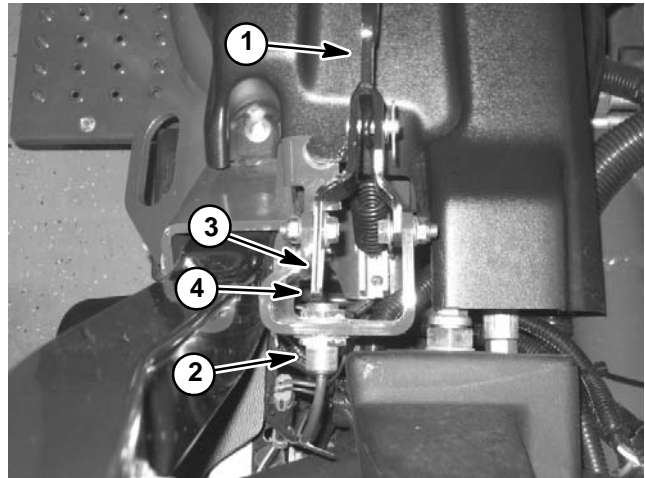

Figure 17
The parking brake switch is a normally open proximity switch that mounts to the frame bracket used to attach the parking brake lever assembly (Fig. 17). The sensing plate for the brake switch is a tab on the parking brake lever assembly. The Toro Electronic Controller (TEC) monitors the operation of the parking brake switch.
1. When the parking brake is not applied, the gap between the parking brake switch and the tab on the parking brake lever should be 0.125" (3.2 mm) (Fig. 17).
The neutral and mow switches are normally open proximity switches that mount to the console assembly (Fig. 17). The sensing plate for these switches is a tab on the functional control lever. The Toro Electronic Controller (TEC) monitors the operation of the neutral and mow switches.